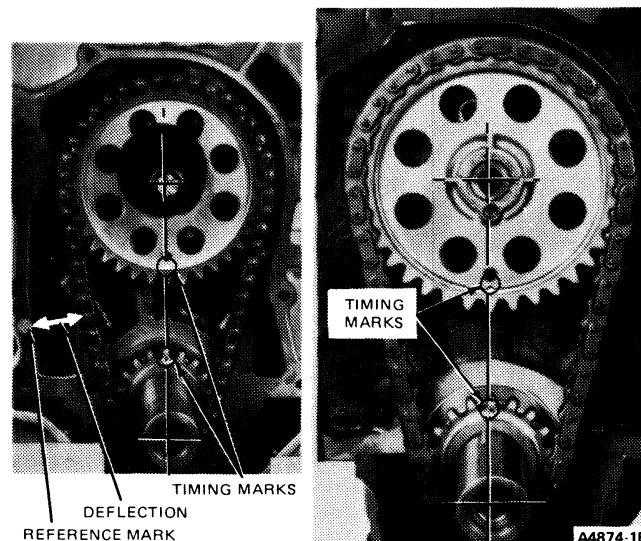

FIG. 21 Timing Chain Deflection
Establish a reference point on the block and measure from this point to the left side of the chain as shown in Fig. 21. Refer to Part 21-01.
14. If the timing chain and sprocket are to be removed, crank the engine until timing marks on sprockets are as shown in Fig. 21.
1. Assemble the timing chain and sprockets so sprocket timing marks point directly toward each other as shown in Fig. 21. Install the chain and sprockets as an assembly to crankshaft and camshaft. Verify proper alignment of timing marks after installation. Install front oil slinger.